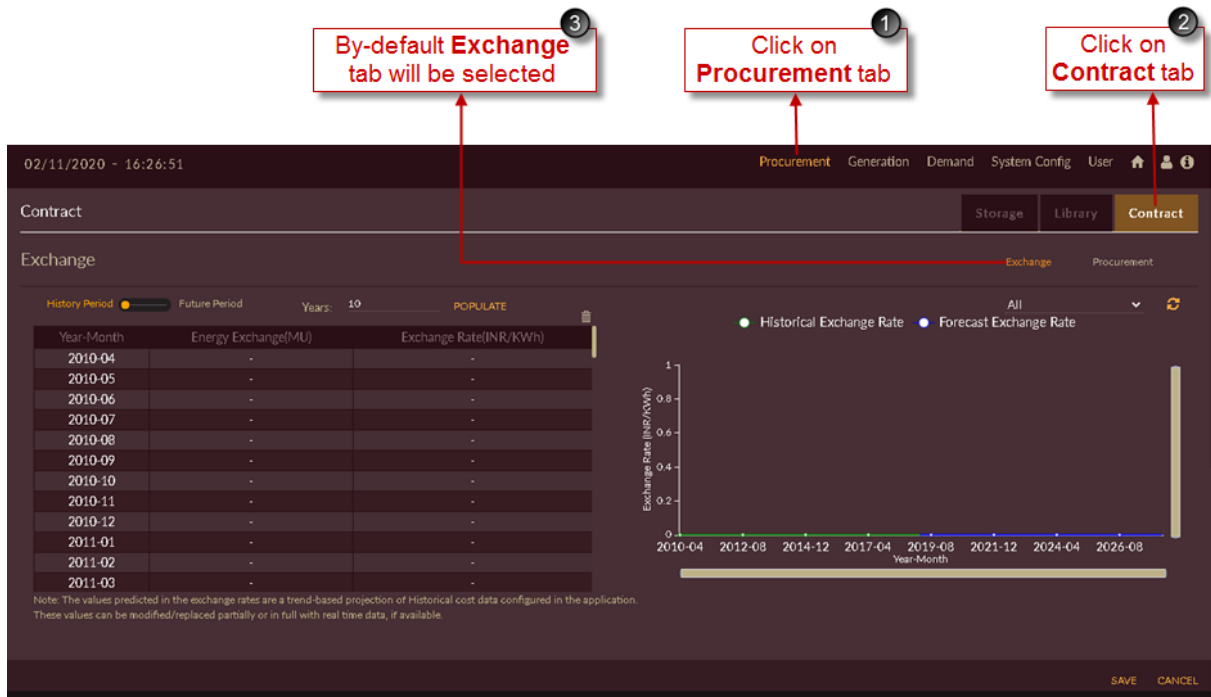

Figure 238. Blank record to add ST exchange data
1. Click on **Procurement** tab. The **Procurement** tab appears as shown in Figure 238.